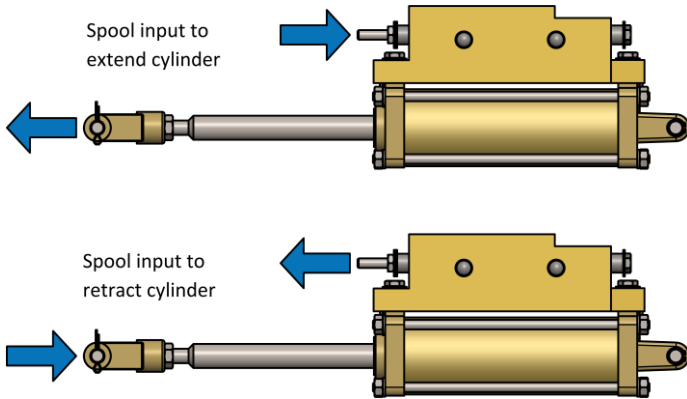

Figure 2: Cylinder Movement Given a Spool Input.
The valve takes input from the user mechanically via the spool. Moving the spool valve causes the cylinder to move in the opposite direction the spool (see Figure 2). It takes approximately 3.1 lbs [14 N] of input force to overcome spool friction.
6. Connect the valve to the input mechanism (e.g. a Kobelt Push-Pull control) via the thread on the spool or by another means. Ensure that the spool's neutral position lines up with input device's neutral position to the best of your ability (see Figure 2 for spool neutral positioning). Secure/tighten the connection.
6. Provide an input to the spool in either direction. Verify that the cylinder is retracting/extending as expected (Figure 2, page 8).